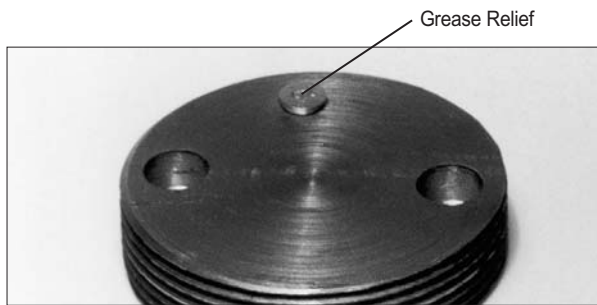

Figure 5 – Grease Relief
2. The current Gunite automatic slack adjusters are produced without a grease relief, forcing lubricant through the drilled worm wheel onto the camshaft. Previous designs incorporated a grease relief. (see Figure 5)